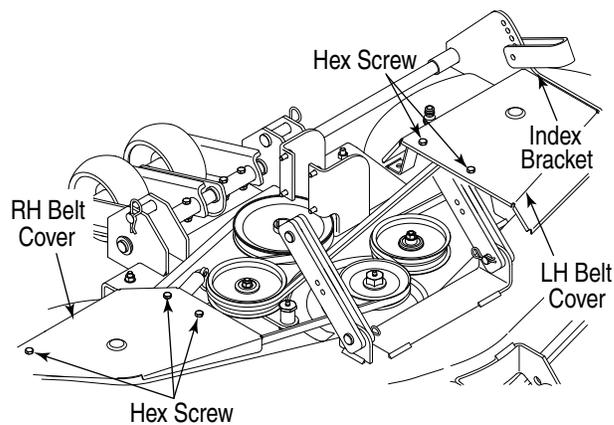

Figure 24
- Remove the three hex screws fastening the RH belt cover. Refer to Figure 24.
- Remove the two hex screws fastening the LH belt cover. Slide the belt inward to disengage its tabs from the slots in the index bracket on the deck. Refer to Figure 24.